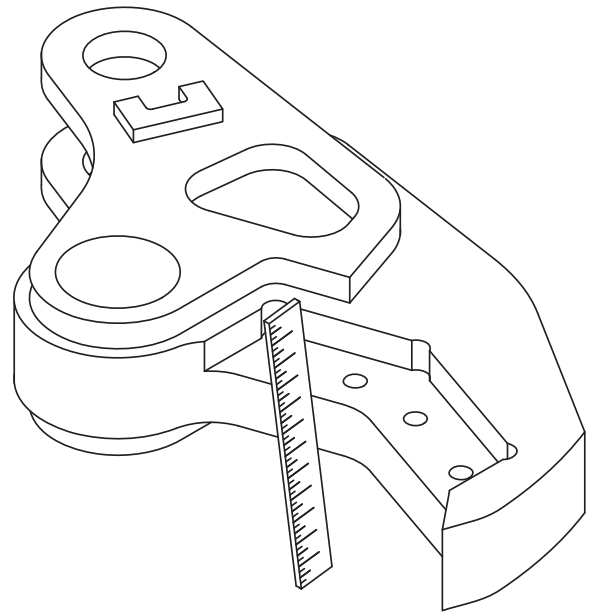

FIGURE 6-3
7. To determine how much build-up is required along the blade seats, place a square or straight edge in a cross section to the blades. Repeat steps 3 and 4 to buildup this area (see figure 6-3).